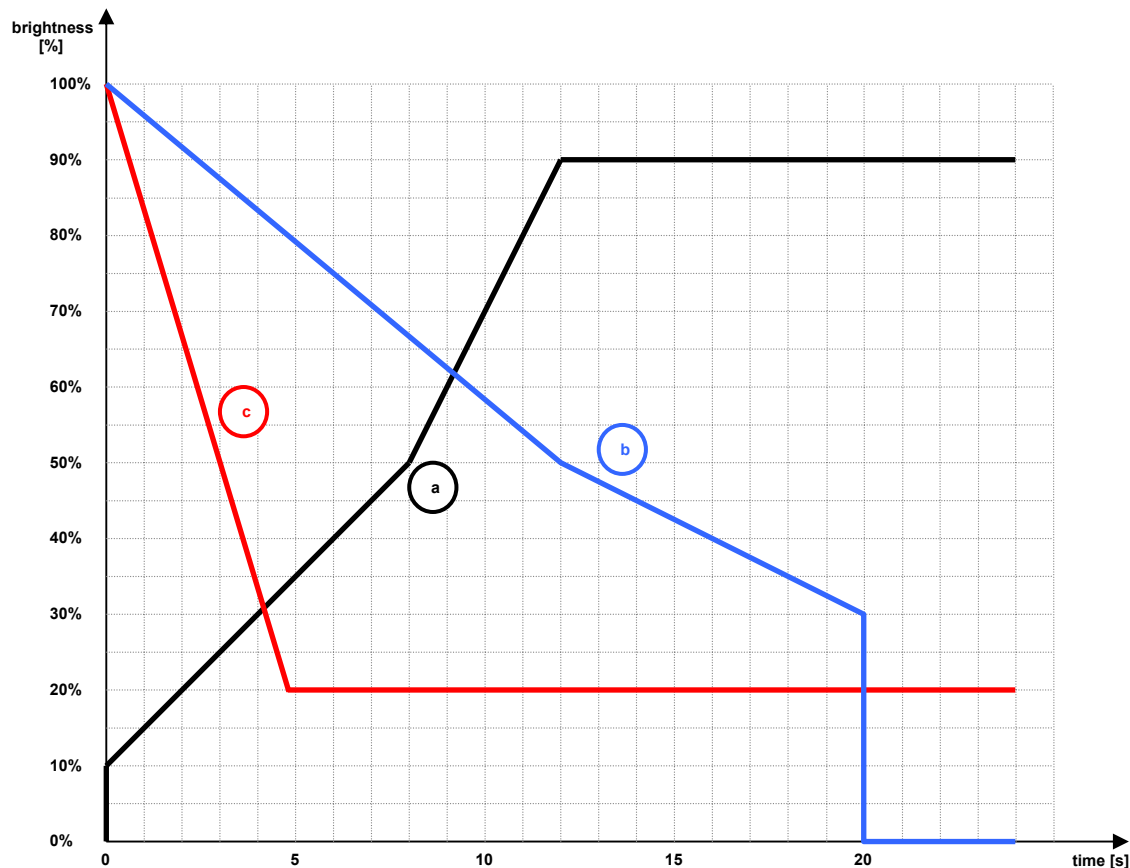

Fig. 8.2: Examples of brightness control according to the minimum threshold and the regulation speed
Fig. 8.2 shows some examples of brightness regulation according to the minimum threshold set and the relative regulation speed.
- a) The black line in fig.8.2 shows the behaviour of the device when an “increase to 100%” command is received via the *Ch. x - Brightness dimming* object, with initial brightness 0% (off) and with the following settings: **Minimum dimming threshold** → 10%, **Relative dimming speed between 0% and 50%** → 10 s, **Relative dimming speed between 55% and 100%** → 5 s and **Maximum dimming threshold** → 90%.
- b) The blue line in fig.8.2 shows the behaviour of the device when a “decrease by 100%” command is received via the *Ch. x - Brightness dimming* object, with initial brightness 100% and with the following settings: **Minimum dimming threshold** → 30%, **Relative dimming speed between 0% and 50%** → 20 s, **Relative dimming speed between 55% and 100%** → 12 s and **Dimming behaviour at minimum threshold reaching** → switching off consents (0%).
- c) The red line in fig.8.2 shows the behaviour of the device when a “decrease by 100%” command is received via the *Ch. x - Brightness dimming* object, with initial brightness 100% and with the following settings: **Minimum dimming threshold** → 20%, **Relative dimming speed between 0% and 50%** → 3 s, **Relative dimming speed between 55% and 100%** → 3 s and **Dimming behaviour at minimum threshold reaching** → stop dimming at minimum threshold.